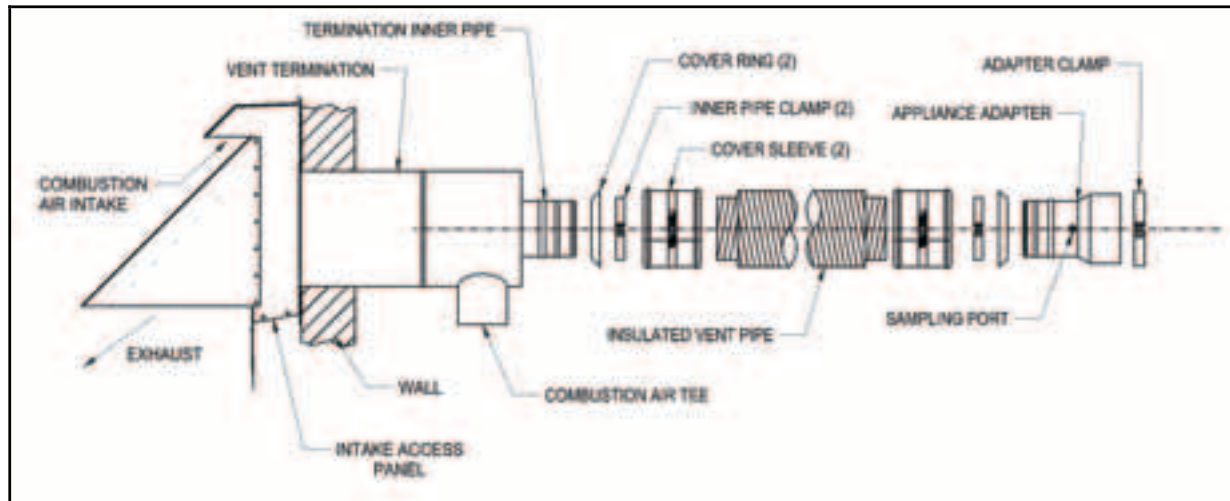

Figure 19
2. After completing assembly of the vent pipe to the termination inner pipe (Fig. 19), apply the supplied high temperature sealant to the cover pan around the inner pipe, around the joint between the collar and the Tee assembly, and seal or tape the joint from the FDVS Termination to the Tee assembly.